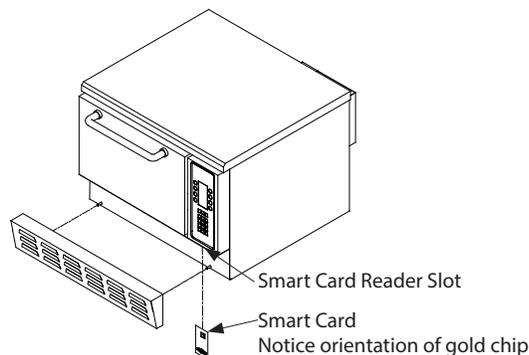

Figure 2: Inserting Smart Card - NGC
1. Insert the gray smart card (Figure 2).